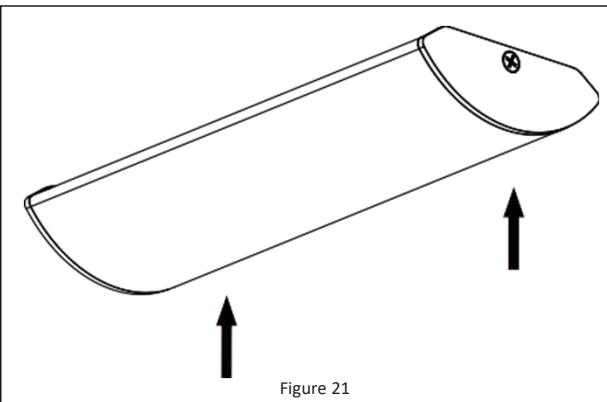

Figure 21
2. Install the diffuser starting at one end of fixture base, insert diffuser slot onto edge of luminaire housing. Carefully squeeze diffuser to engage opposite side with luminaire housing. Continue this action down length of diffuser until fully installed onto fixture base. *See Figure 21.*